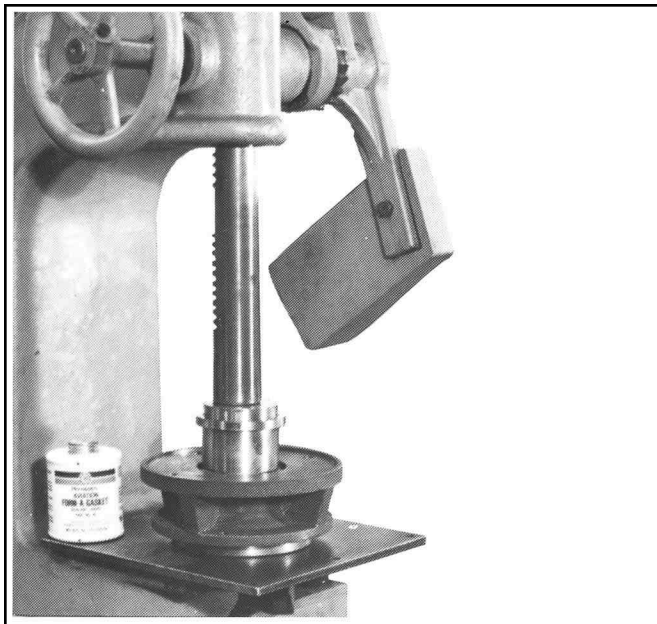

Figure 9.1 - Pressing Oil Seal (#62) Into Bore
1. Place a light coating of Permatex Form-A-Gasket in oil seal bore of C-Face Adapter (#1) and press Oil Seal (#62) into bore. (See Figure 9-1)